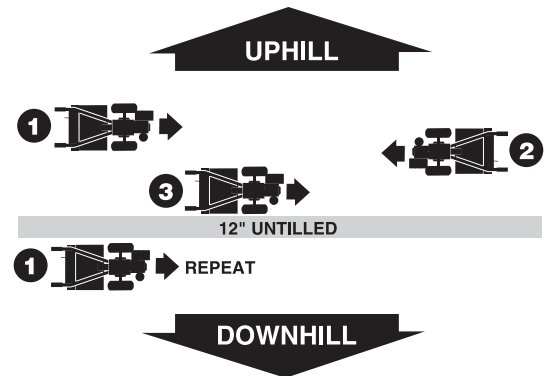

Fig. 4-10
- To create a terrace, start at the top of the slope and work down. Go back and forth across the first row as shown in Fig. 4-10.